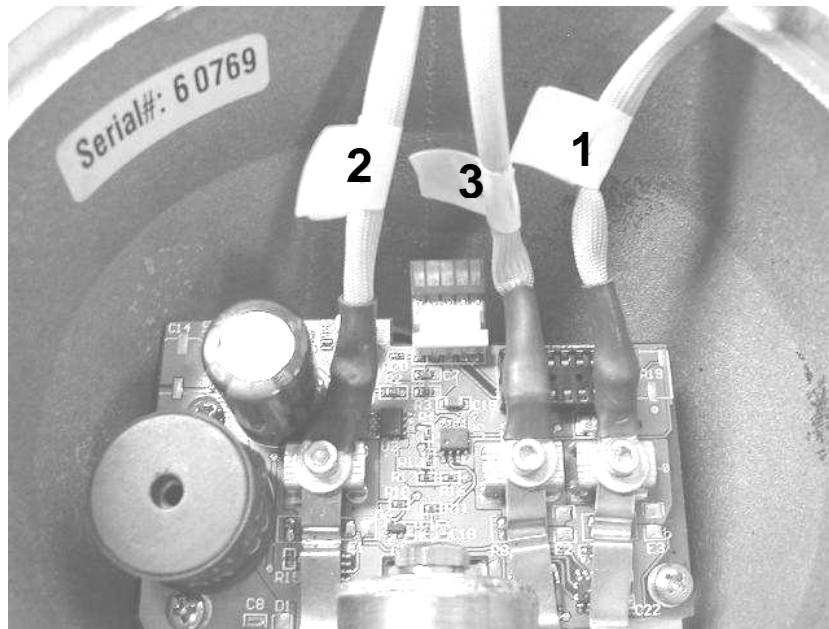

Fig. 8
32. Orient the body as described in step 20. If at least two of the stator leads are labeled, using the three, small socket-head screws, connect the wires in the following order from left to right on the circuit board: **#2 - Left Terminal, #3 - Center Terminal, #1 - Right Terminal**. See **Fig. 8** below for clarity. It is important that the three ring terminals are parallel and cannot contact one another once tightened.